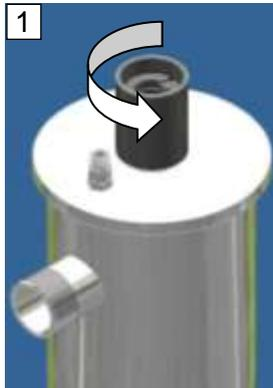

Fig. 8: Screw cap
- ➔ Unscrew the screw cap (Fig. 8) from the radiation chamber (☺). Make sure not to lose the O-rings.